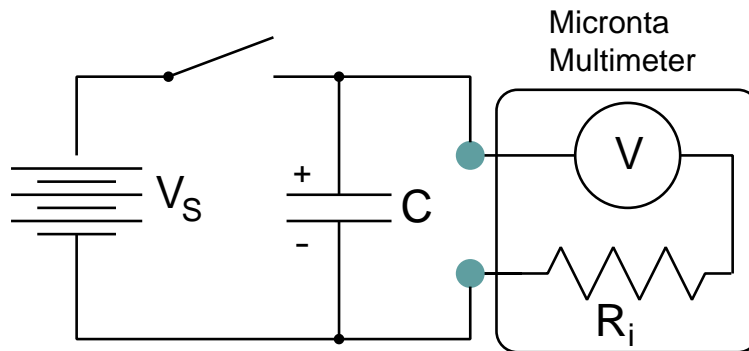

Figure 3: Setup for long time constant measurement
2. Construct the circuit as shown in Figure 3, making sure the electrolytic capacitor is connected with correct polarity. Notice that when the switch is closed, current will flow until the capacitor is completely charged, after which the current flow stops. When the switch is opened, the capacitor discharges. The current flows through the Micronta Multimeter (which is being used as a voltmeter) which contains an internal resistor R_i . The voltmeter acts as the load resistor for the circuit, as well as a measuring device. In other words, the resistor in the voltmeter is the R in the RC circuit.
5. Adjust the vertical and horizontal positioning knob, the time/div scale, and the V/div scale for Channel 1 until you obtain the charging/discharging trace. Expand the trace so that it extends across the whole 8 divisions of the screen, only making visible one complete period of the square wave. The screen on your oscilloscope should look similar to Figure 3.